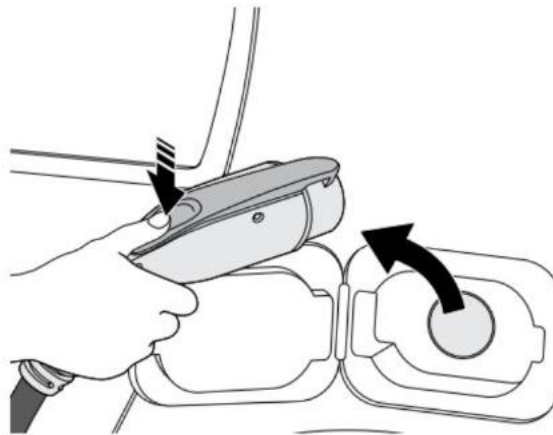

Figure 6-2-5
- 5) To conclude the charging, the charging station indicator light will turn off. Simply disconnect the charging gun, as shown in Figure 6-2-5.